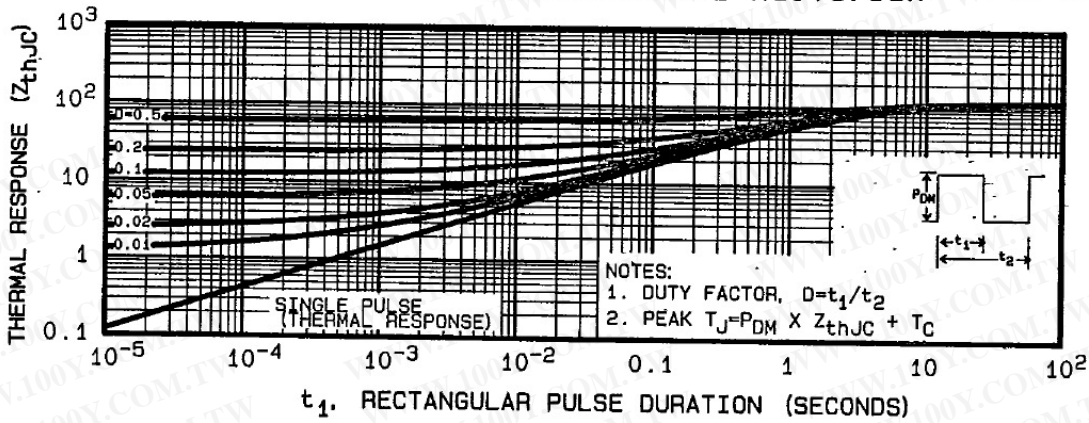

Fig. 5 — Maximum Effective Transient Thermal Impedance, Junction-to-Case Vs. Pulse Duration
①  $T_J = 25^\circ\text{C}$  to  $150^\circ\text{C}$     ② Repetitive Rating: Pulse width limited by max. junction temperature. See Transient Thermal Impedance Curve (Fig. 5).
③ @  $V_{dd} = 25\text{V}, T_J = 25^\circ\text{C}$     ④ Pulse Test: Pulse width  $\leq 300 \mu\text{s}$ , Duty Cycle  $\leq 2\%$
⑤  $KW = ^\circ\text{C}/\text{W}$      $L = 100 \mu\text{H}, R_G = 25\Omega$